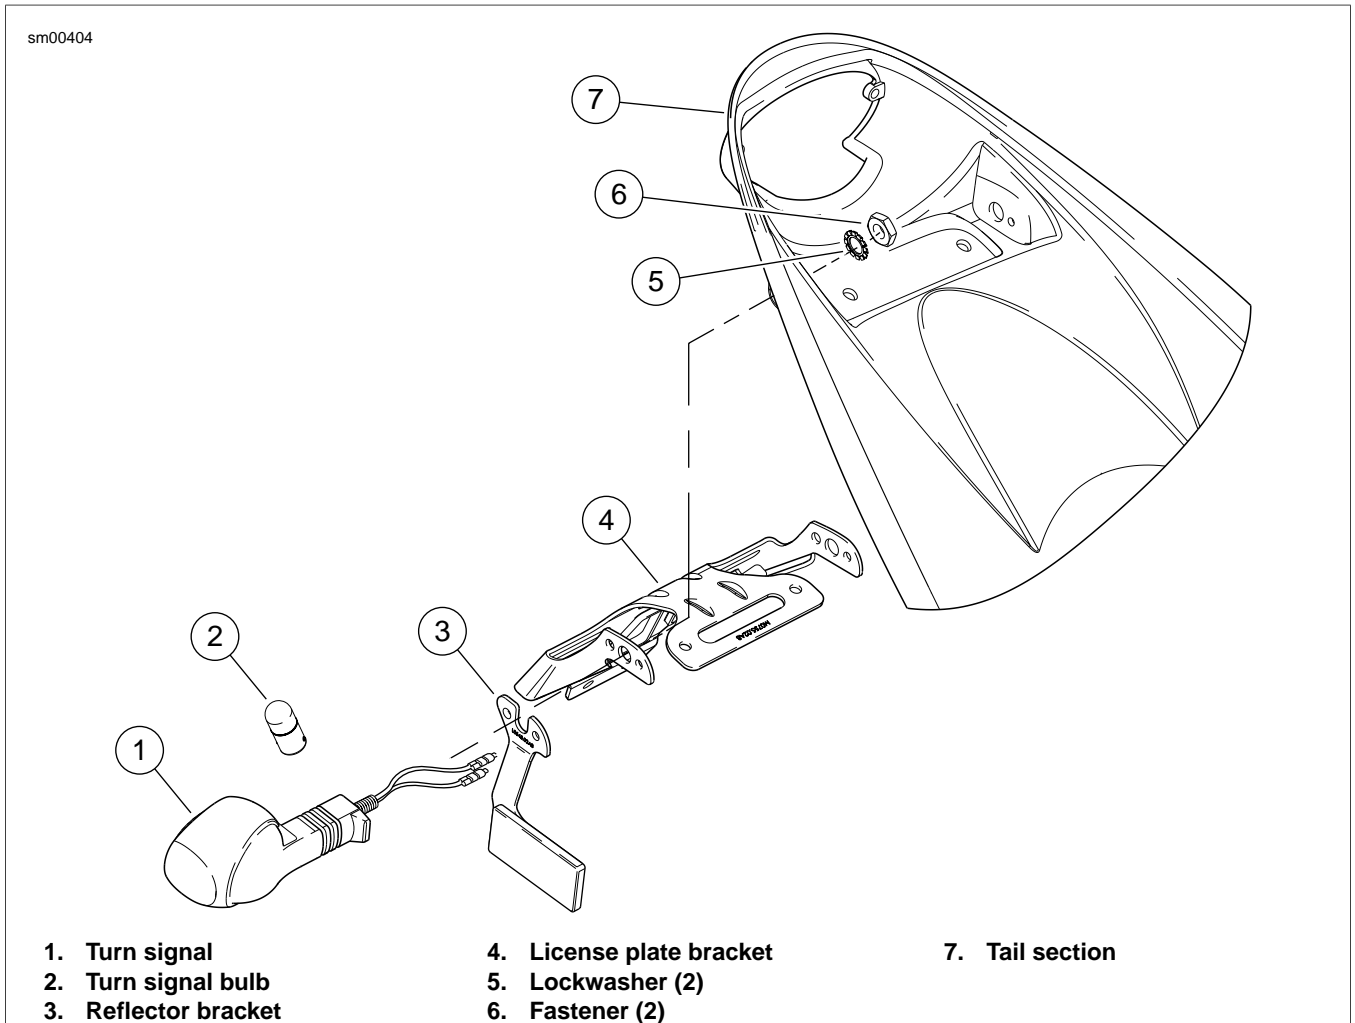

Figure 6-54. Rear Turn Signals: Firebolt
4. See Figure 6-54. Remove fastener (6) and lockwasher (5).
5. Remove turn signal from tail section (7) and license plate bracket (4).